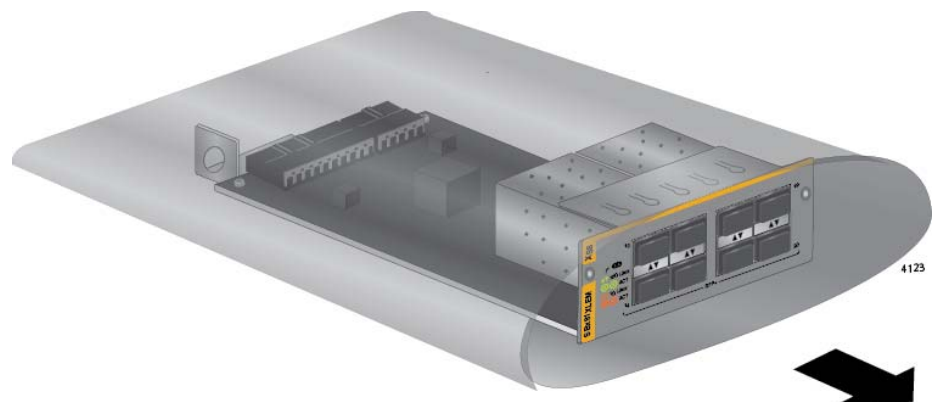

Figure 80. Removing the Expansion Module from the Anti-static Bag
7. Remove the expansion module from its shipping container and anti-static bag. Refer to Figure 80.